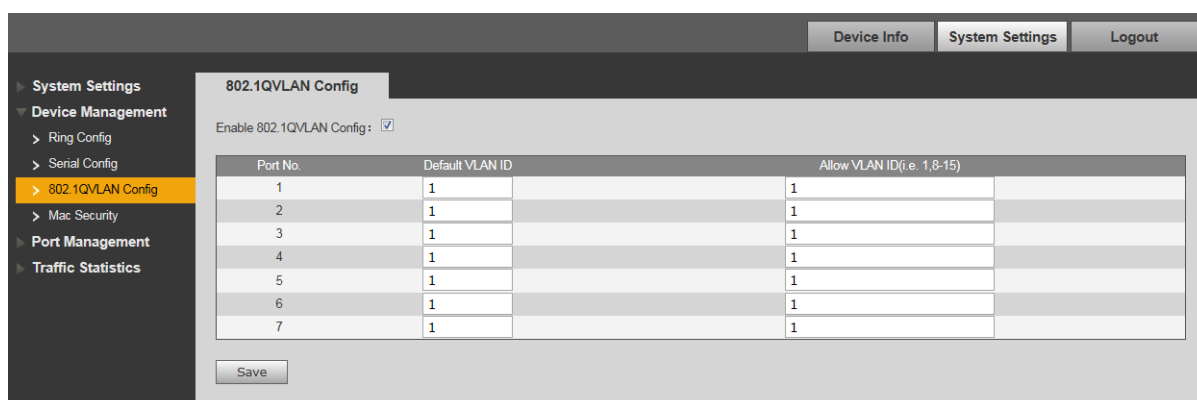

Figure 3-11
Step 1 Select “Device Management > 802.1Q VLAN Config”, which is shown in Figure 3-11.